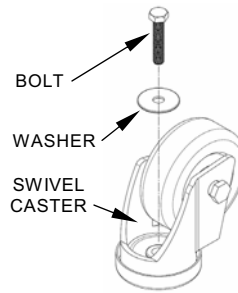

Figure 4
- Place a washer on one of the six long bolts and then feed the bolt through the hole in one of the swivel casters (see Fig. 4).
- Next, place a washer on one of the six long bolts and then feed the bolt through the hole in one of the swivel casters (see Fig. 4).